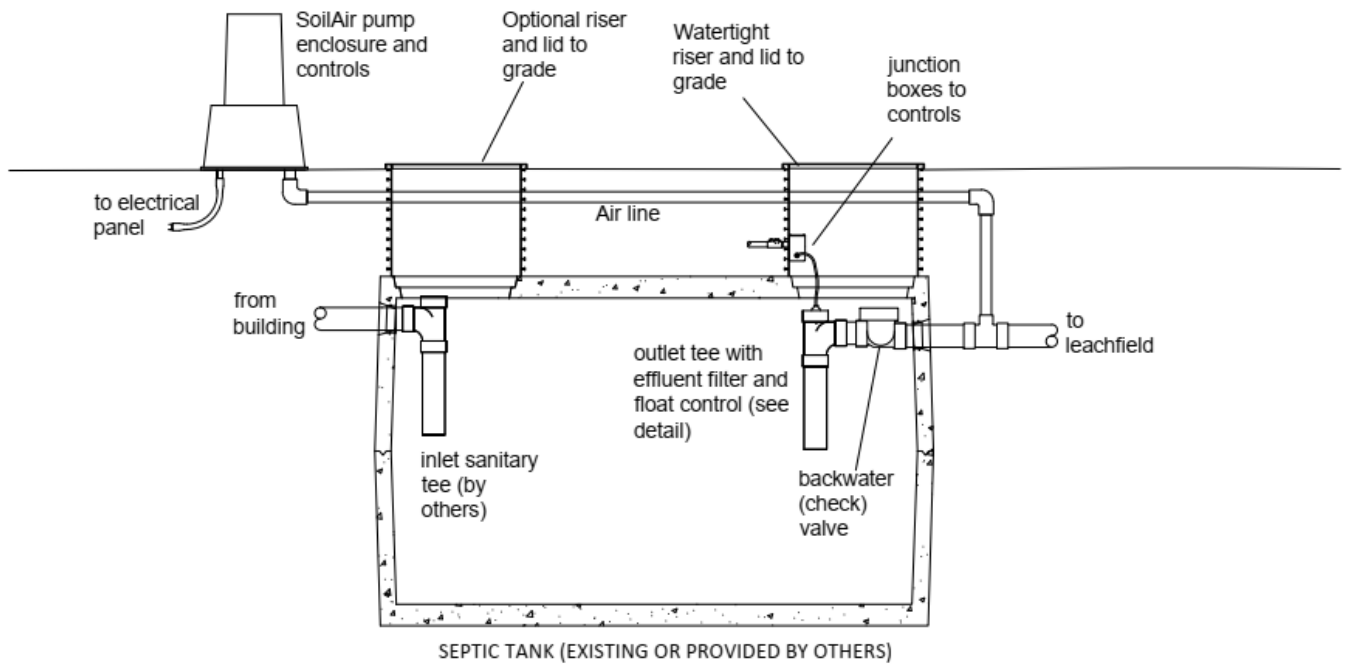

FIGURE 2
- The float switch on gravity systems is typically located in the outlet baffle of the septic tank (see Figure 2.)